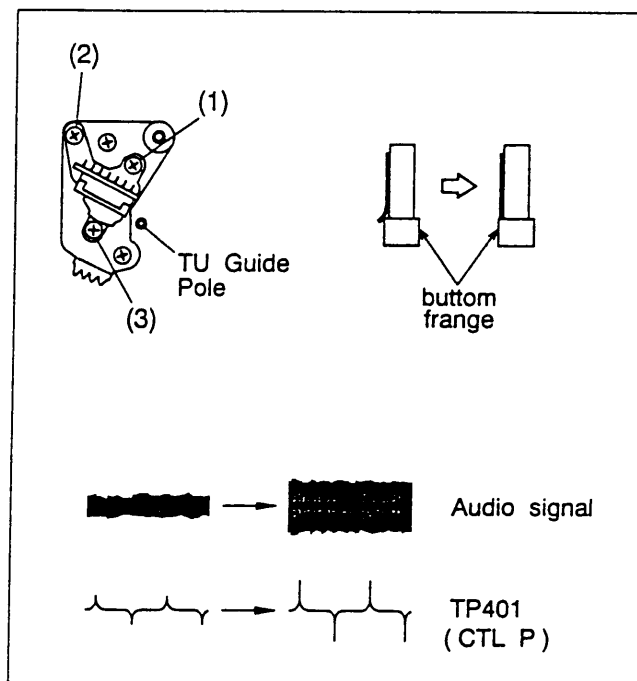

Fig. 2-7-5
- (1) Use spare tape and set for playback.
- (2) Turn screw (3) clockwise to where the tape curls just slightly at the TU guide pole bottom flange as shown in Fig. 2-7-5.
- (3) Then slowly turn screw (3) counterclockwise to where the curling ceases.